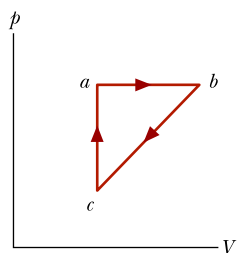

Figure 18.20 Problem 50.
**50** **M** **GO** A lab sample of gas is taken through cycle  $abca$  shown in the  $p$ - $V$  diagram of Fig. 18.20. The net work done is  $+1.2$  J. Along path  $ab$ , the change in the internal energy is  $+3.0$  J and the magnitude of the work done is  $5.0$  J. Along path  $ca$ , the energy transferred to the gas as heat is  $+2.5$  J. How much energy is transferred as heat along (a) path  $ab$  and (b) path  $bc$ ?